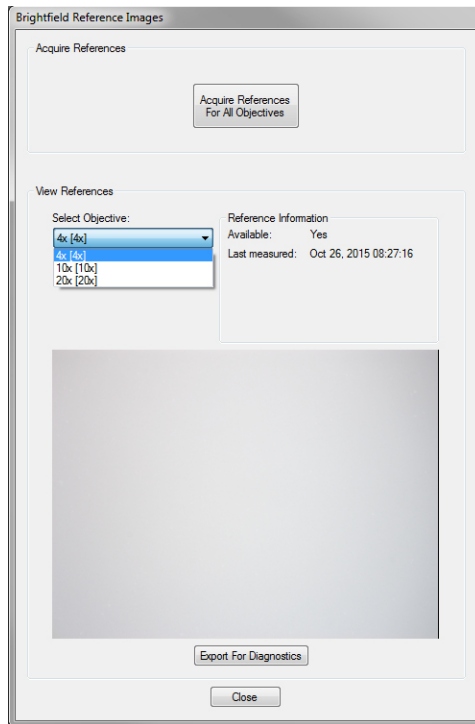

Figure 16. Brightfield Reference Images Window
3. Click the **Brightfield References** button. The Brightfield Reference Images window opens as shown in Figure 16. The Brightfield Reference Images window allows you to view any existing reference images or acquire new reference images.